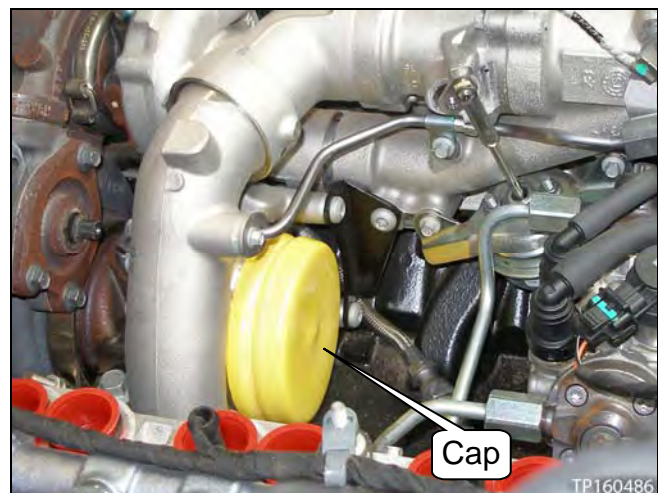

Figure 46
35. Cover the low pressure turbocharger inlet (see Figure 46).